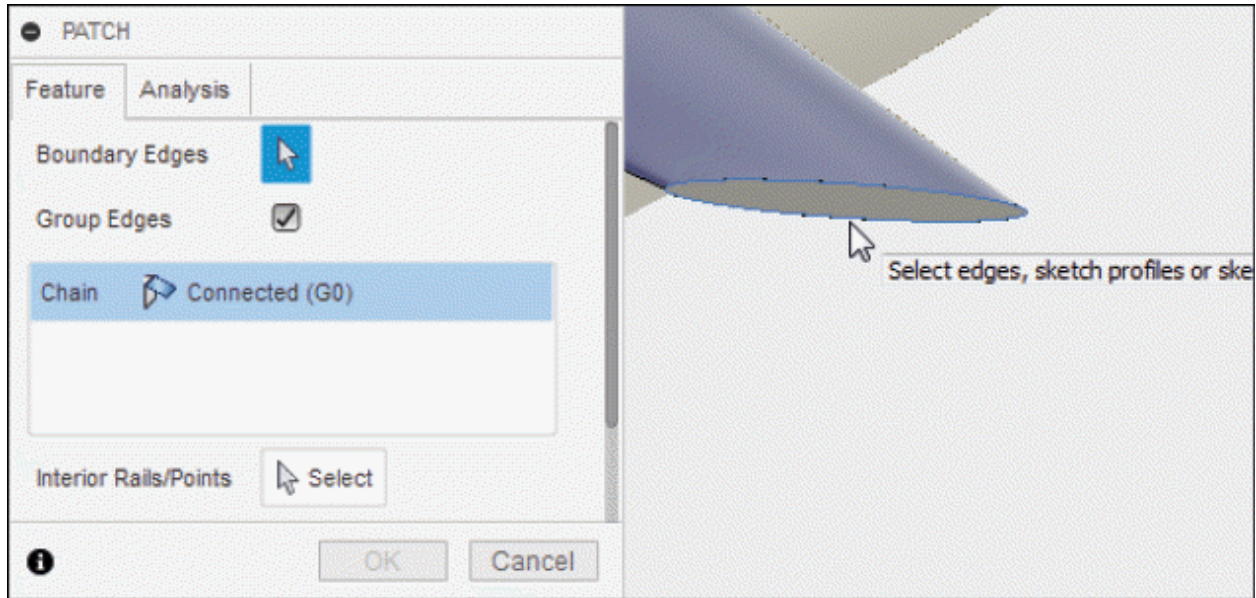

Figure-55. Applying Patch tool
- Click on the **Patch** tool of **CREATE** drop-down from **Toolbar**. The **PATCH** dialog box will be displayed; refer to Figure-55.